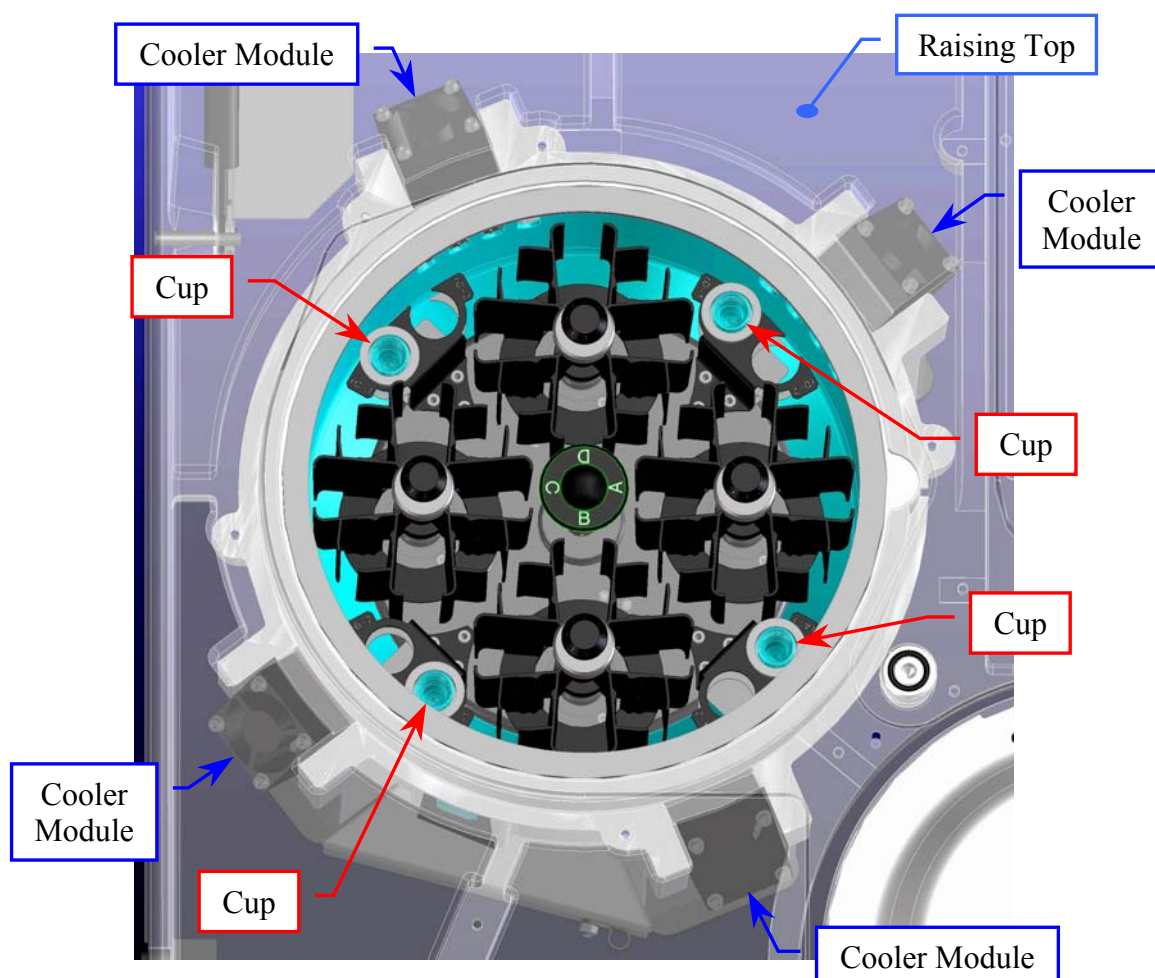

Fig. 134 – Reagents Plate and Cooler Modules
7. Position the four filled cups in the positions #1 – by the adaptors – of the four Peripheral Racks (rA-1, rB-1, rC-1 and rD-1 positions) as showed in the **Fig. 134**.